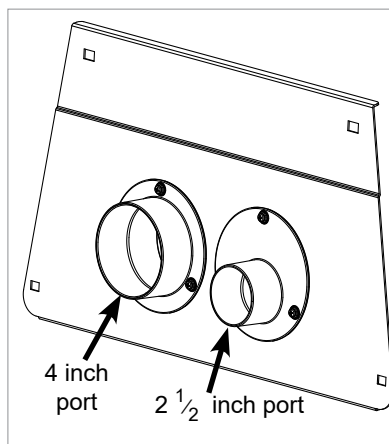
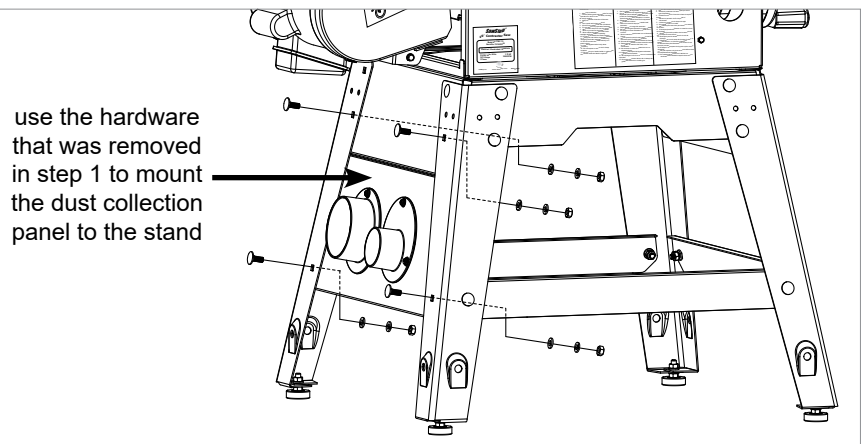

Fig. 2a
Fig. 2b
2. The dust collection panel comes with a 4 inch and a 2 1/2 inch dust port already installed (see Fig. 2a). The panel mounts to the rear face of the stand behind the rear stand panel and the stand legs. Align the four mounting holes in the panel with the four holes in the stand and use the hardware that was removed in step 1 to mount the panel to the stand as shown in Fig. 2b.